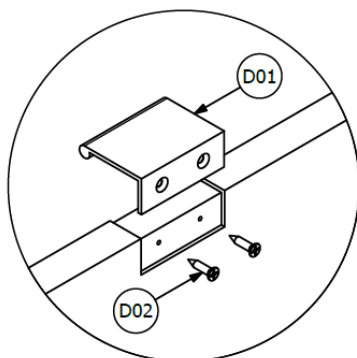

FIG. 02:
1. Using Wood Screw D02, attach Pulls (D01) to Drawer Fronts. See Figure 02.